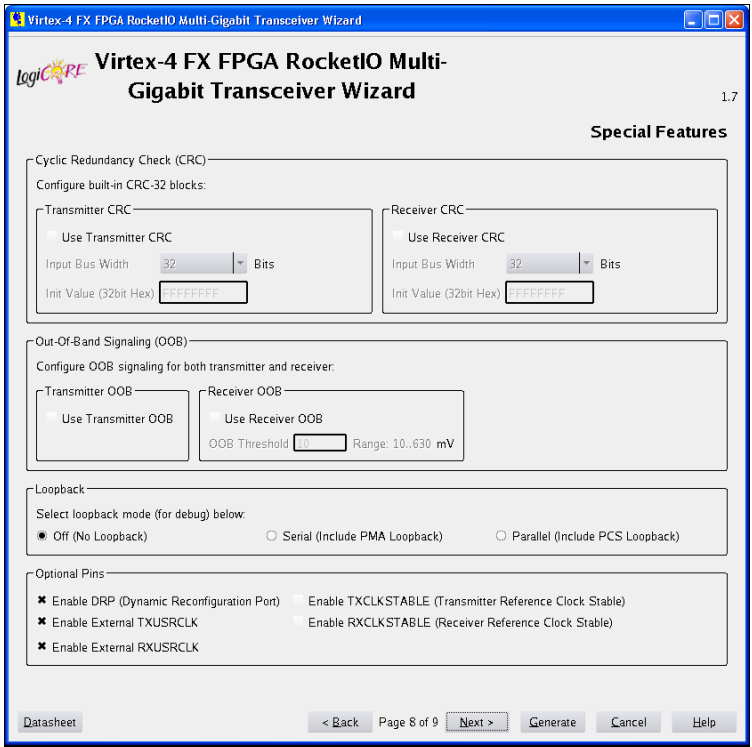

Figure 3-12: Virtex-4 FX FPGA RocketIO MGT Wizard - Page 8
Page 8 of the Wizard (Figure 3-12) is for selecting special features for the protocol wrapper, such as CRC, out-of-band (OOB) signaling, and loopback.
3. See Figure 3-12, page 34.